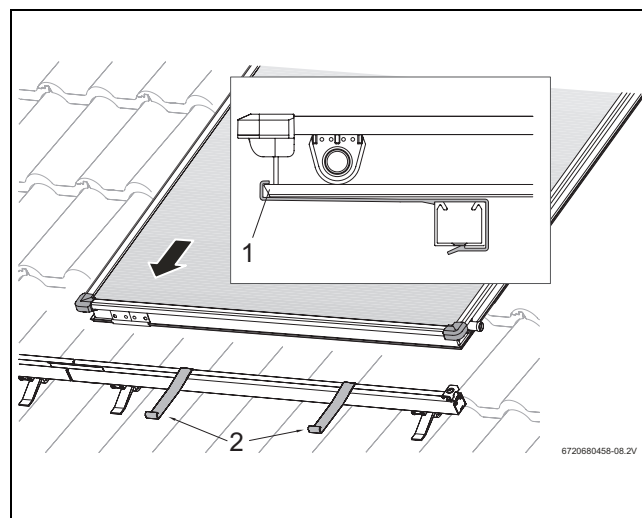

Fig. 40 Lay the first collector on the profile rails
- Position the first collector on the profile rail and into the anti-slip brackets (Fig. 40).
Position the lower collector edge in the opening of the anti-slip bracket (Fig. 40, [1]).